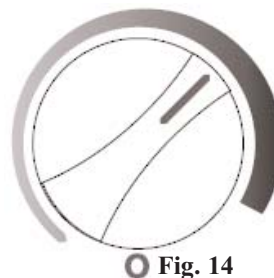

Fig. 14
- When maximum cooling is achieved, turn back the temperature control knob setting to the 2 o'clock position on the graduated blue control dial. See Fig.14.